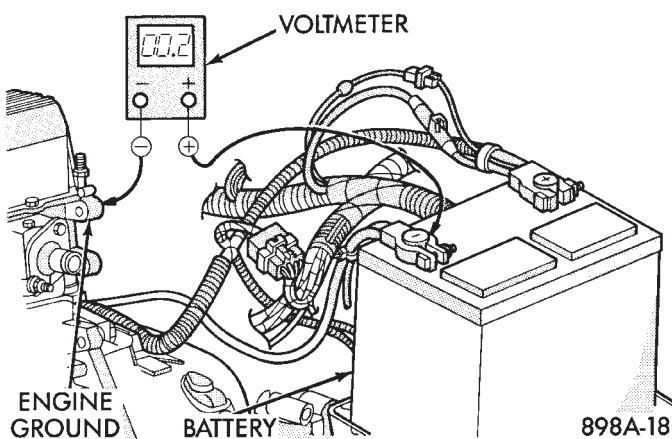

Fig. 5 Test Ground Circuit Resistance - Typical
(4) Connect the voltmeter to measure between the battery negative terminal post and a good clean ground on the engine block (Fig. 5). Rotate and hold the ignition switch in the Start position. Observe the voltmeter. If the reading is above 0.2 volt, clean and tighten the battery negative cable attachment on the engine block. Repeat the test. If the reading is still above 0.2 volt, replace the faulty battery negative cable.